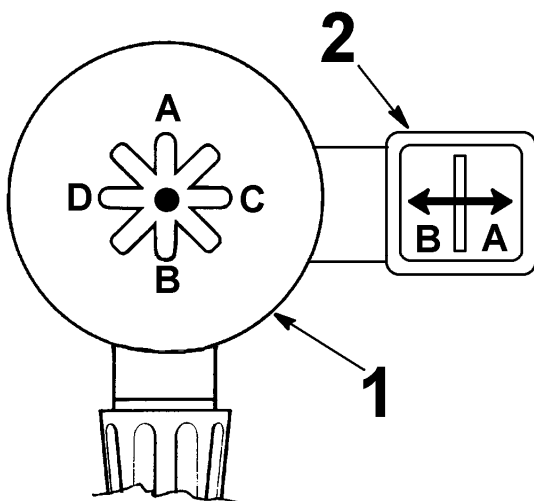

Fig.13
3. Operate the control (#1 Fig.13) to position **A**: the chuck arm moves upwards.
Operate the control (#1 Fig.13) to position **B**: the chuck arm moves downwards.
4. Operate the control (#1 Fig.13) to position **C**: the toolholder carriage moves to the right.
Operate the control (#1 Fig.13) to position **D**: the toolholder carriage moves to the left.
5. Operate the control (#2 Fig.13) to position **A**: the toolholder arm moves to the right.